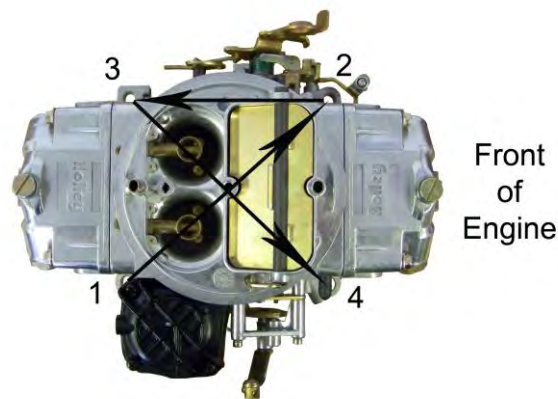

Figure 5
3. Place the carburetor on top of the flange gasket on the manifold. Install the hold down nuts and snug down progressively in a “crisscross” pattern (60-80 in./lbs.), as shown in Figure 5.